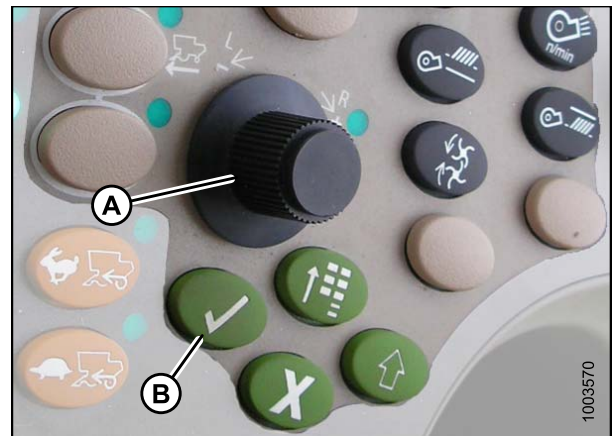

Figure 3.192: John Deere Combine Control Console
6. Select HEADER in box (A) by scrolling down to the box using the scroll knob, and then pressing the check mark button (knob and button are shown in Figure 3.192: *John Deere Combine Control Console*, page 147).
7. Scroll down to the lower right icon that resembles an arrow in a diamond (B) and press the check mark button to select it.